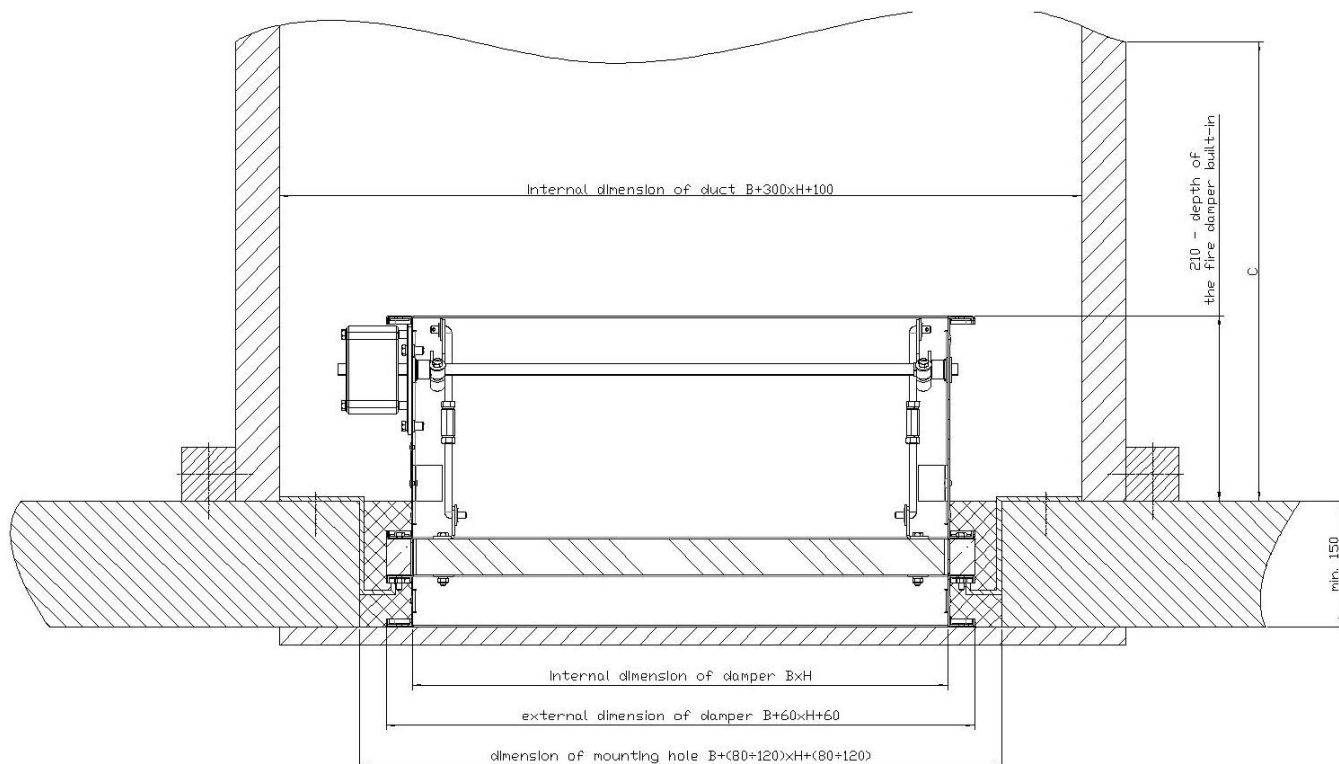

Figure 7. Installation method of smoke control dampers KWP-P in ceiling with a duct made of PROMAT boards with sealing of mineral wool
- Make an opening in the PROMAT duct with the dimensions allowing for installing connection duct into them. (item 7),
- Connection duct which have been connect with a damper, connect with the duct with using screws and PROMAT L500 AND PROMATECT-H, and insulate according to Fig. 7.